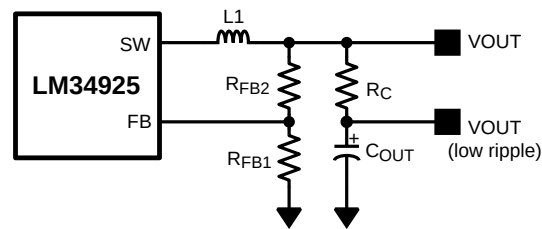

Figure 13. Low Ripple Output Configuration
This regulator regulates the output voltage based on ripple voltage at the feedback input, requiring a minimum amount of ESR for the output capacitor (C_{OUT}). A minimum of 25mV of ripple voltage at the feedback pin (FB) is required for the LM34925. In cases where the capacitor ESR is too small, additional series resistance may be required (R_C in Figure 13 Low Ripple Output Configuration).
For applications where lower output voltage ripple is required the output can be taken directly from a low ESR output capacitor, as shown in Figure 13 Low Ripple Output Configuration. However, R_C slightly degrades the load regulation.